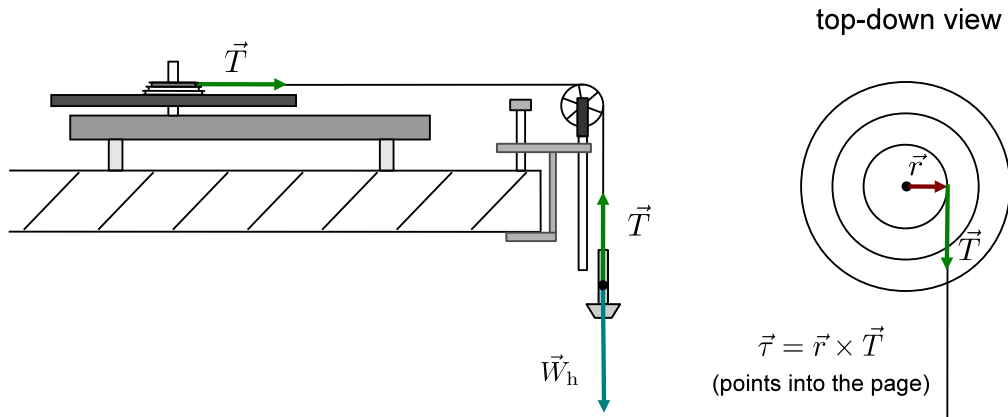

Figure 1: Diagram of rotational apparatus setup.
1. Verify that your setup looks like Figure 1. The rotary motion sensor will be recording the rotation of the large disk as it spins alongside it.